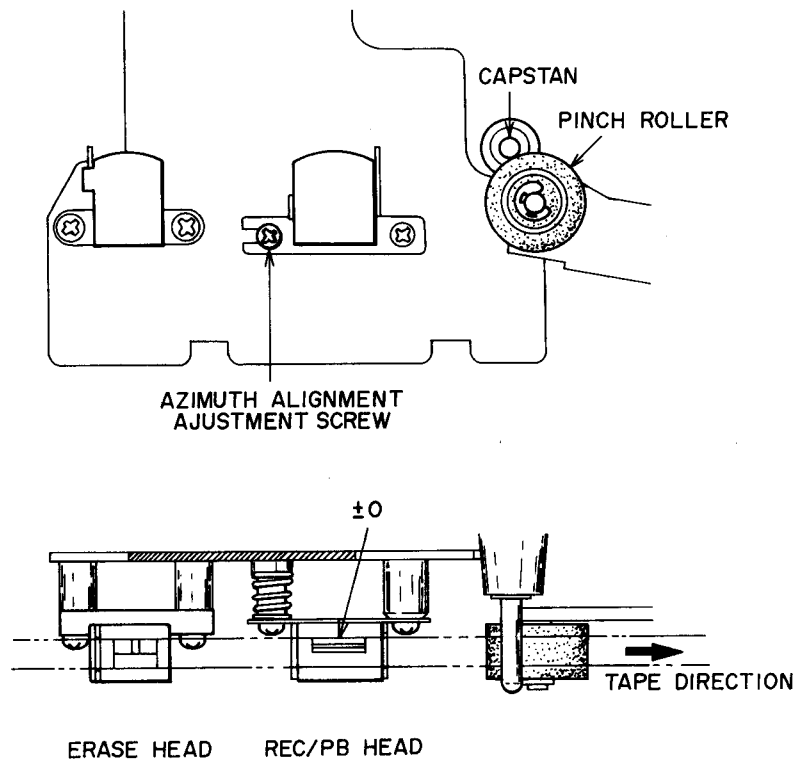

Fig. 9
AZIMUTH ALIGNMENT (Refer to Fig. 9)
- Playback a 10 kHz pre-recorded cassette azimuth alignment test tape and adjust screw shown in Fig. 9 to obtain maximum output on both channels.